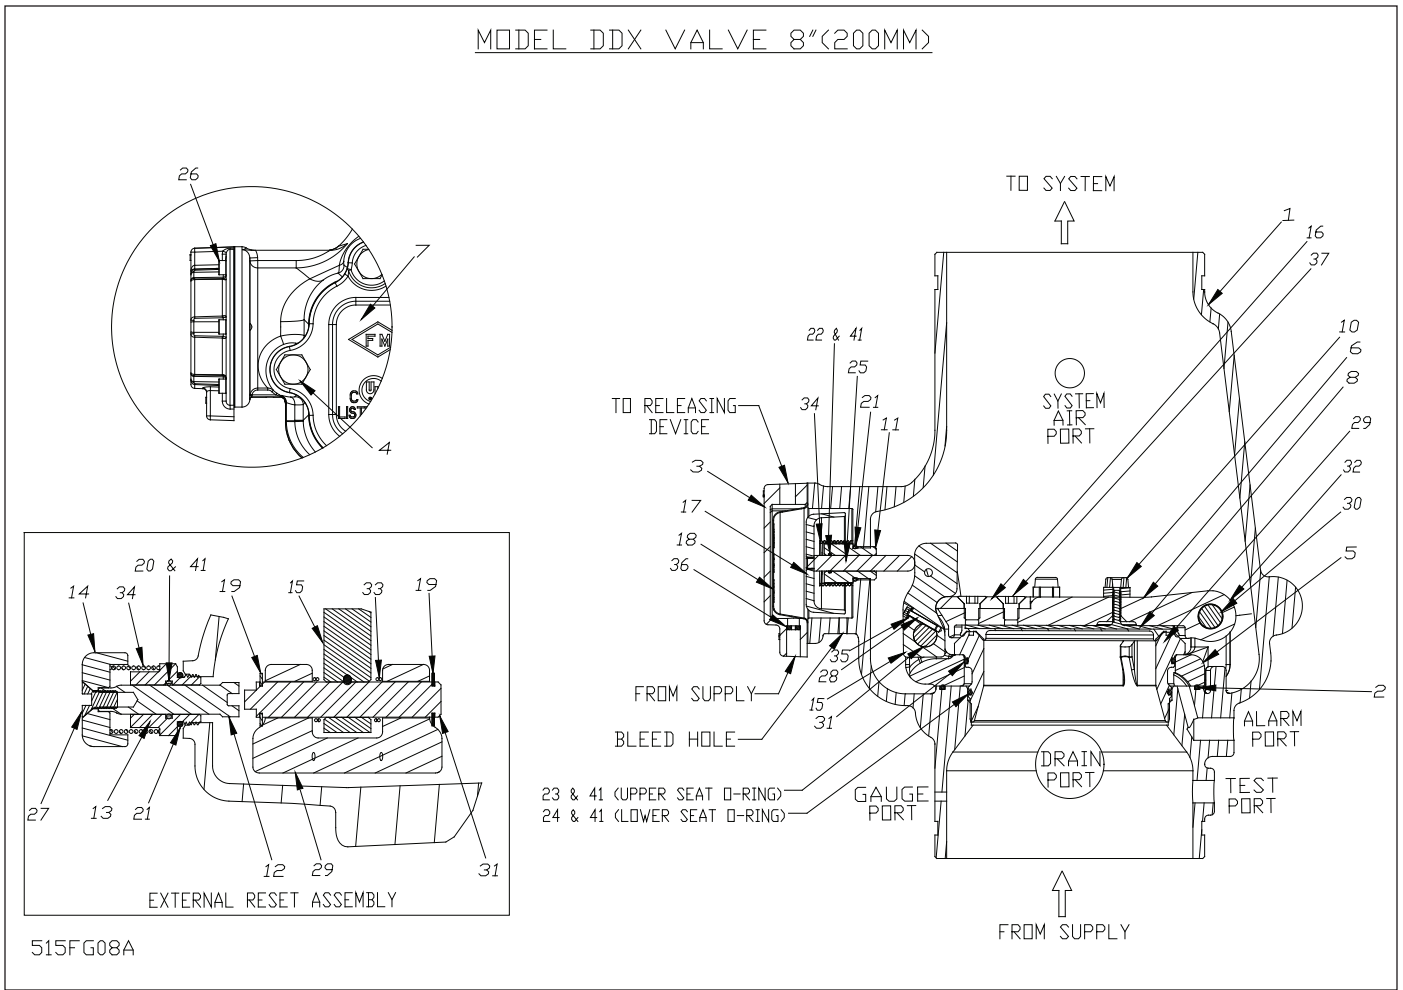

Fig. 4
6. With the Model B Manual Emergency Station, valve D (Fig. 5), open, push in and rotate the Deluge Valve's external reset knob (#14, Fig. 4) clockwise until you hear a distinct clicking noise, indicating that the clapper has closed. **Note:** The reset knob can be rotated only while pressure in the pushrod chamber is vented to atmospheric conditions (0 psig).
Model DDX 8" (200mm) Deluge Valves Parts List (Refer to Fig. 4)
4. **Ball drip valve G (Fig. 5)** — make sure that valve F (Fig. 5) is open. Push in on the plunger to be sure the ball check is off its seat. If no water appears, the Deluge Valve's water seat is tight. Inspect the bleed hole (see Fig. 4) in the side of the push rod chamber for leakage.
This condition can be caused by leakage past the system side of the Model DDX Deluge Valve's seal assembly (#8, Fig. 4). Be sure that this surface is free of any type of debris. To eliminate leakage due to a water column, refer to the section in this bulletin marked "Draining Excess/Condensate Water From System". If the problem continues proceed to the following section.
If system air is leaking out the ball drip valve, the problem is either damage to the airside of the Model DDX Deluge Valve's seal assembly (#8, Fig. 4), seat (#29, Fig. 4) mounting ring O-ring (#2, Fig. 4), or the upper seat O-ring (#23, Fig. 4). If supply water is leaking out the ball drip valve, the problem could be caused by damage to the Model DDX Deluge Valve's seal assembly (#8, Fig. 4), seat (#29, Fig. 4), or lower seat O-ring (#24, Fig. 4). The following section provides instructions to correct both conditions:
- B. Remove the Deluge Valve's front (handhold) cover (#7, Fig. 4) and inspect the seat (#29, Fig. 4), clapper (#6, Fig. 4), and seal assembly (#8, Fig. 4) for damage.
If inspection indicates damage to the seal assembly (#8, Fig. 4), replace as follows:
Remove the bumpstop nuts (#10, Fig. 4) and remove the seal assembly (#8, Fig. 4). Install a new seal assembly (#8, Fig. 4) and thread the bumpstop nuts (#10, Fig. 4) onto the threaded stud of the seal assembly (#8, Fig. 4) and tighten finger tight plus ¼ to ½ turn.
At the rear of the valve, disconnect the water column drain trim section starting with the elbow connector (#14, Fig. 2). Then remove the ¼" globe valve (#24, Fig. 2), followed by the ¾" x ¼" reducing bushing (#9, Fig. 2). Remove the retaining ring (water column drain line side) from the clapper hinge pin (#30, Fig. 4) and push this pin through handhold cover and remove the clapper sub-assembly. Replace the seal assembly as
described previously. Inspect the clapper (#6, Fig. 4) visually before reinstalling. Reinstall in the reverse order making sure the clapper spacers are in their proper position. If the seat (#29, Fig. 4) is damaged or it is suspected that the leakage is through the lower O-ring (#24, Fig. 4), the seat-clapper sub-assembly is easily removed as a unit as follows:
Using Reliable P/N 6881608000 Seat Wrench, remove the seat by unscrewing. This will loosen the seat-clapper-mounting ring sub-assembly. Reach into the valve and grasp the seat and remove it from the valve. Then remove the clapper-mounting ring assembly from the valve. Visually examine all components of the seat-clapper-mounting ring sub-assembly replacing any component that appears damaged. New O-rings (#2, #23 & #24, Fig. 4) should always be used for reassembly.
Clean the bore of the valve body. Lubricate the bore with O-ring grease. Lubricate and install the O-rings (#23 & #24, Fig. 4) onto the seat (#29, Fig. 4) and O-ring (#2, Fig. 4) into the body (#1, Fig. 4). Insert the clapper-mounting ring sub-assembly into the handhold opening of the Deluge Valve. Align the mounting ring so that the Lever (#15, Fig. 4) is near the pushrod (#25, Fig. 4) and the mounting ring (#5, Fig. 4) "ears" are between the tabs of the valve body (#1, Fig. 4). Insert the seat (#29, Fig. 4) into the valve body (#1, Fig. 4) and through the clapper-mounting
ring assembly. Start to tread the seat (#29, Fig. 4) into the body by hand, then tighten the seat (#29, Fig. 4), with seat wrench 6881608000, until it bottoms out on the mounting ring (#5, Fig. 4). Verify that the seat-clapper-mounting ring subassembly is in the fully down position between the tabs of the body, and check to see that the lever (#15, Fig. 4) lines up with the push rod (#25, Fig. 4). Loosen and reassemble if necessary. Reassemble the handhold cover (#7, Fig. 4) and set up the Model DDX Deluge Valve as per the section "Resetting Model DDX Deluge Valve Systems."
A small bleed hole is located on the underside of the push rod chamber (see Fig. 4). If there is air or water leakage coming out of this hole, do the following:
- b. Remove the trim at the unions nearest to the push-rod chamber cover (#3, Fig. 4).
- c. Take the push rod chamber cover (#3, Fig. 4) off by removing the six retaining screws (#26, Fig. 4).
Water coming out of the bleed hole is caused by a leaking diaphragm (#18, Fig. 4). Visually inspect the push rod chamber cover (#3, Fig. 4) and piston (#17, Fig. 4) to determine what could have damaged the diaphragm and correct. Install a new diaphragm. **NOTE: The diaphragm has two different surfaces. It is not bi-directional. It will fail if installed backwards!** Roll the diaphragm so that the smooth surface (the pressure side) conforms to the inside of the push rod chamber cover and reassemble the six retaining screws (#26, Fig. 4) with an installation torque of 15 foot-pounds. Set up the Model DDX Deluge Valve as per the section "Resetting the Single Interlock Preaction System".
System air coming out of the bleed hole is caused by a defective O-ring assembled to the pushrod guide (#11, Fig. 4). Remove the piston-pushrod subassembly, push rod spring (#34, Fig. 4), and push rod guide (#11, Fig. 4). Verify by hand turning, that the push rod cannot be unscrewed from the piston. Replace all O-rings and the push rod guide (#21 & #22, Fig. 4). The correct installation torque for the push rod guide is 35 inch-pounds. **CAUTION: Do not over tighten the push-rod guide.** Reassemble the components that were initially removed. Re-install the diaphragm (#18, Fig. 4) if it appears to be in good shape, otherwise, replace it also. **NOTE: The diaphragm has two different surfaces. It is not bi-directional. It will fail if installed backwards!** Roll the diaphragm so that the smooth surface (the pressure side) conforms to the inside of the push rod chamber cover and reassemble the six retaining screws (#26, Fig. 4) with an installation torque of 15 foot-pounds. Set up the Model DDX Deluge Valve as per the section "Resetting the Single Interlock Preaction System".